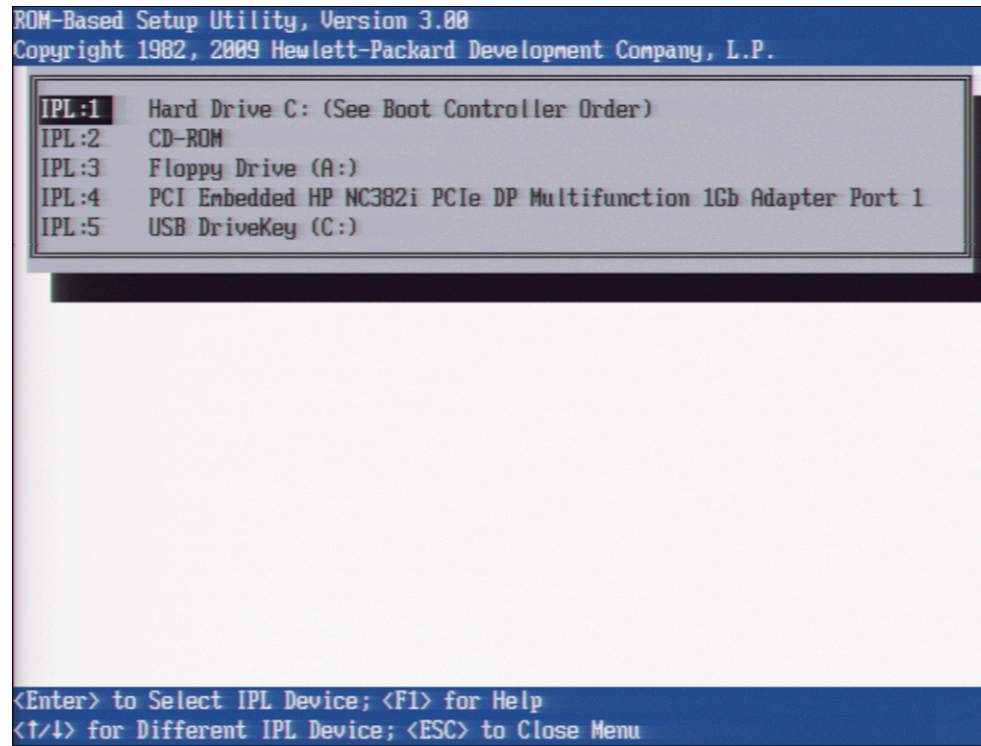

Figure 5: Standard Boot Order
2. To change the boot sequence, select **Standard Boot Order (IPL)** and press **Enter**. (See Appendix A, Figure 5).
Figure 5 shows how to boot from RAID drives. To boot from the internal flash drive, USB DriveKey would appear in the IPL:1 position.